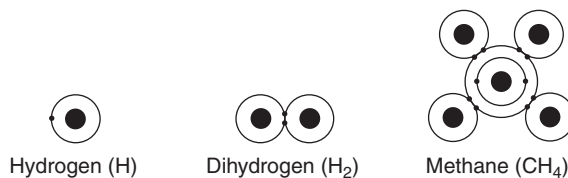

Figure 19.5
- Oxygen (O), the first element illustrated has an outer shell with six electrons. It needs two more to form the stable octet. Its valence is two. As shown, e.g., in the water molecule, H₂O (or H–O–H) oxygen is bonded to two hydrogen atoms. (You may correctly surmise from this that the valence of H is one.)
- Note that nitrogen (N) has five electrons. It needs three more, so its valence is three. A common compound that N forms is ammonia with three hydrogens, NH₃.
- And carbon (C) – so all-important to life – has only four electrons. It needs four more.¹¹ Its valence is four. The simplest example of an organic C compound is methane, CH₄ (Figure 19.5).
Several very light elements are *exceptions* to the stable octet as they have too few electrons. For these elements, think about the innermost shell, which needs only two electrons to be full. Examine Figure 19.5.
- Hydrogen (^1H) has only one electron. It needs one more to be stable. So H has a valence of one. If another H atom is available, the two will react to form H_2 gas (Figure 19.5): they share the pair of electrons. Other examples given in the paragraph above also indicate the valence of one for hydrogen: H_2O , NH_3 , and CH_4 . ▀ Hydrogen very often reacts with carbon to form organic compounds (described later in this chapter). A major group of compounds formed by the reaction of H with C is the hydrocarbons such as those in petroleum or coal. The simplest hydrocarbon is methane. A carbon atom with its valence of four reacts with four hydrogens to form methane, CH_4 (Figure 19.5).
In a covalent bond the atoms *share* electrons – as shown for H_2 in Figure 19.5. Also see the diagram for methane, CH_4 . Notice that each of the four hydrogens in CH_4 is sharing a pair of electrons with carbon. Each H now has a stable configuration, and carbon has formed the stable octet. ▀ Covalent bonds are found in countless chemicals. You may remember from earlier chapters the names of chemicals such as carbon monoxide (CO), methane (CH_4), ammonia (NH_3), oxygen (O_2), nitrogen (N_2), formaldehyde (HCHO), benzene
Look at the two molecules in Figure 19.5, H_2 and CH_4 .